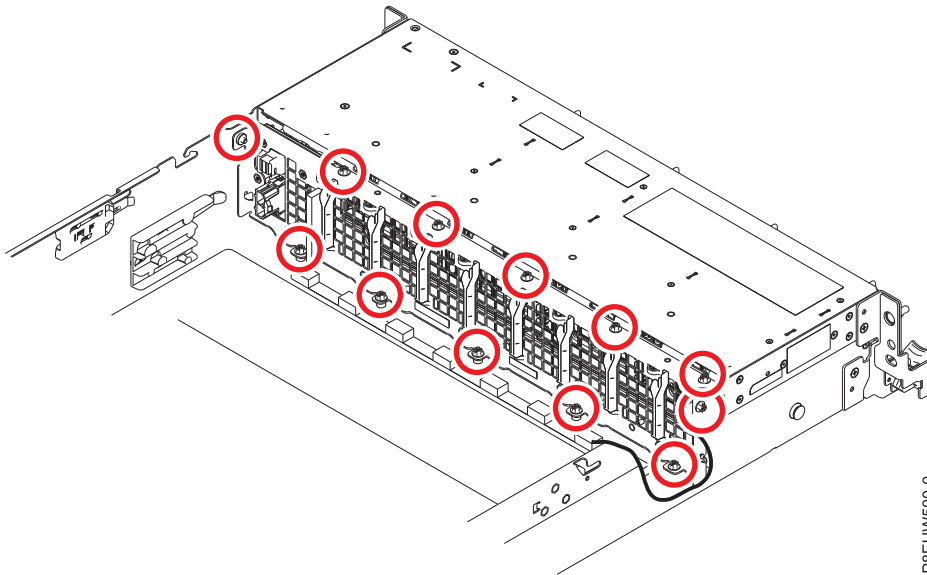

Figure 6. Screw locations for the disk drive and fan card
4. Replace the 5 screws for the bottom of the disk drive and fan card. Figure 6 on page 12 shows all 12 screw locations.